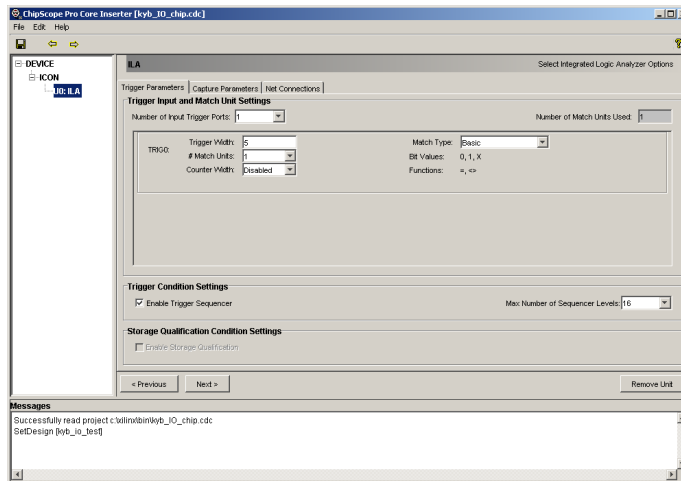

Figure 16
25. In “Trigger Parameter” tab enter the parameters as shown in Figure 16 and click on next.